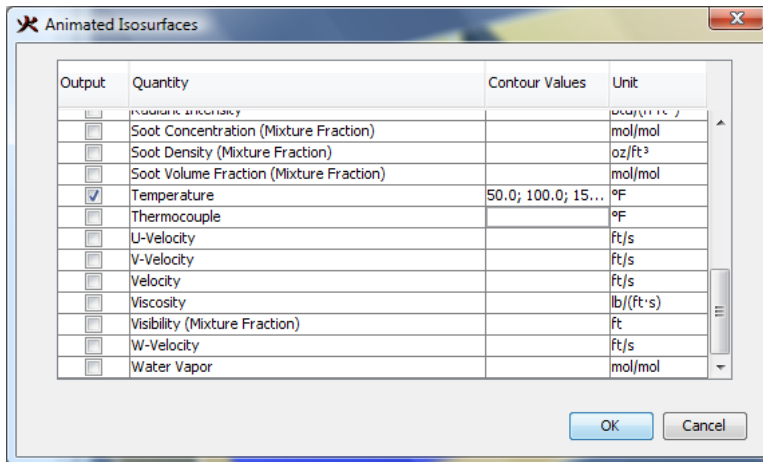

Figure 6.19. Defining the temperature isosurfaces
3. In the **Contour Values** column, enter 50 100 150 200 250, where the contour values are separated by a space, Figure 6.19.